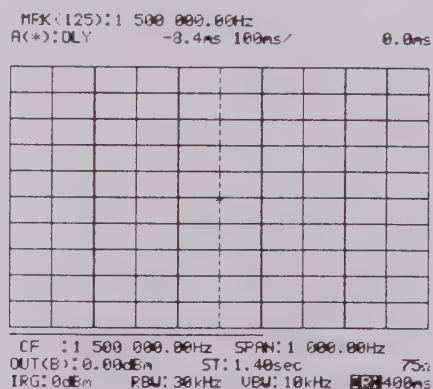
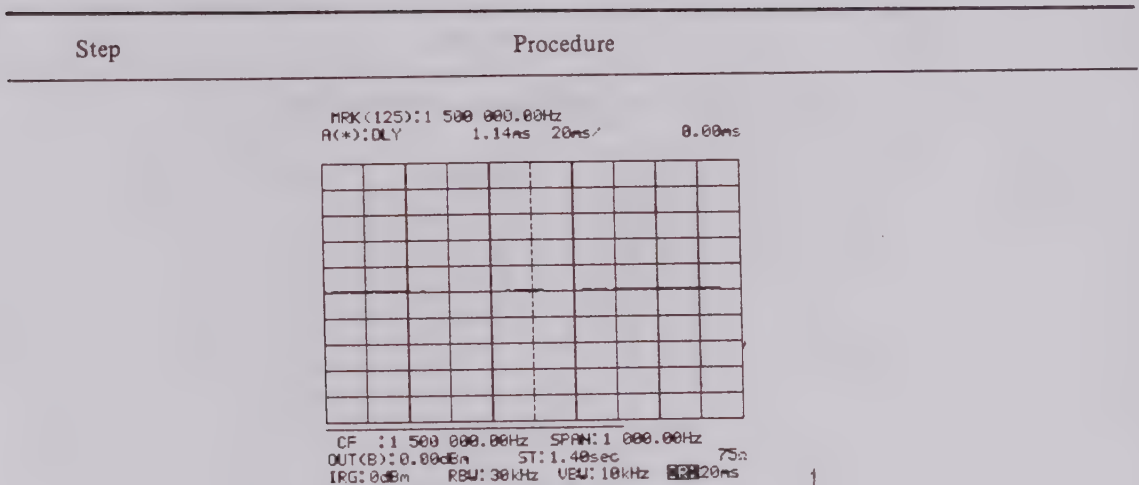

Fig. 3.13 DR Adjustment (A)
Fig. 3.14 DR Adjustment (B)
- 10 Decrease the DR gradually from 400 ms. The waveform on the CRT should change from that shown in Fig. 3.13 to that in Fig. 3.14.
Fix the DR once the waveform shown in Fig. 3.14 appears on the CRT.